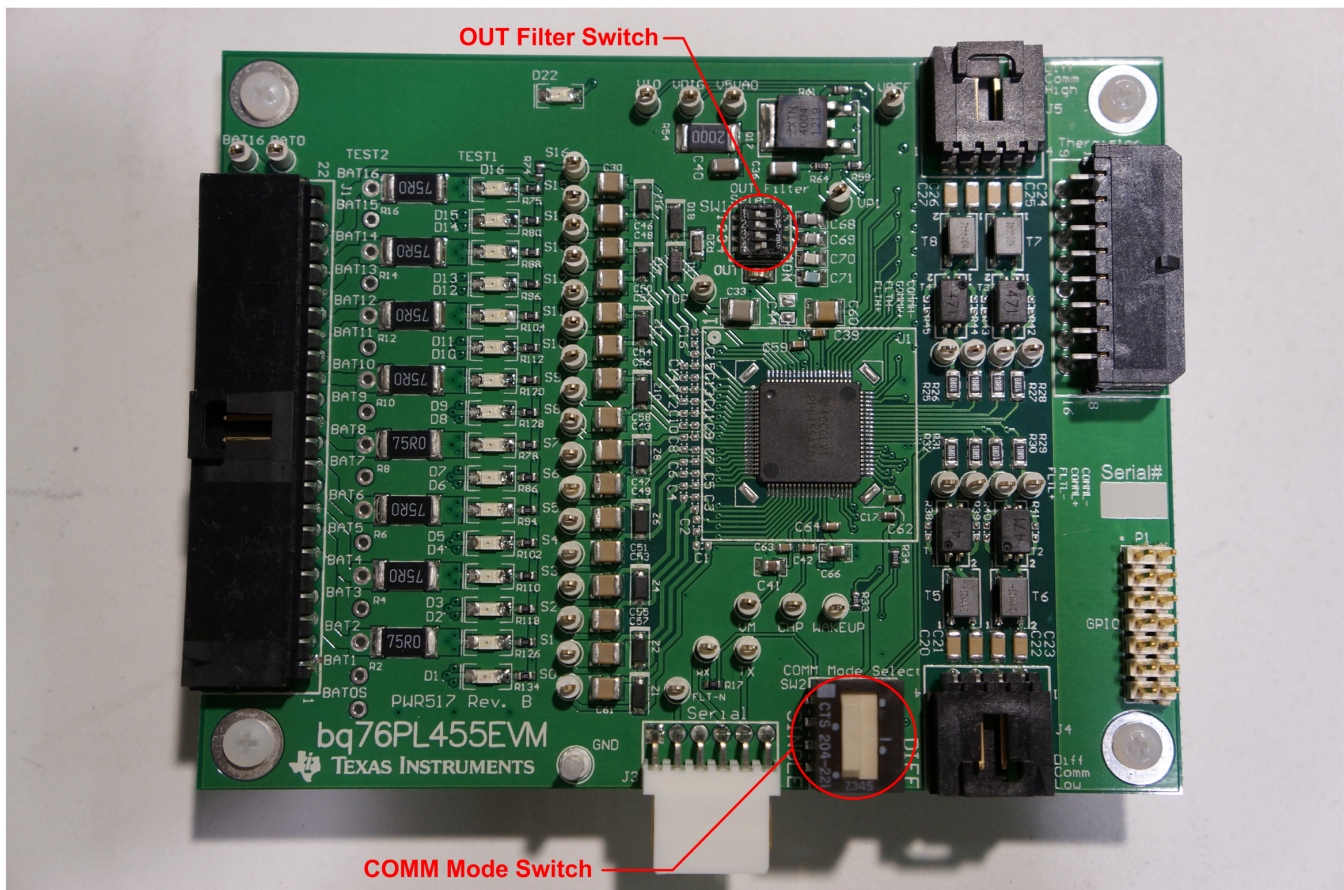

Figure 9. Single bq76PL455EVM Switch Configuration
Figure 9 shows an example of a single bq76PL455EVM configuration.
1. The configuration for a sample period setting of 60.04 μs with 2.7 nF by setting switch 1 on the OUT FILTER switch package to "ON" is shown in Figure 9.
2. On the bottom bq76PL455EVM that is connected to the PC, set the SW2 - *COMM Mode Select* switch as shown in Figure 9. On all other stacked bq76PL455EVMS, set the lever on the SW2 - *COMM Mode Select* switch package in the opposite direction, toward the DIFF label
3. Set SW1 - *OUT Filter Select* switches on all bq76PL455EVMS to the desired setting as outlined in Section 5.1.1 or as shown in Figure 9.